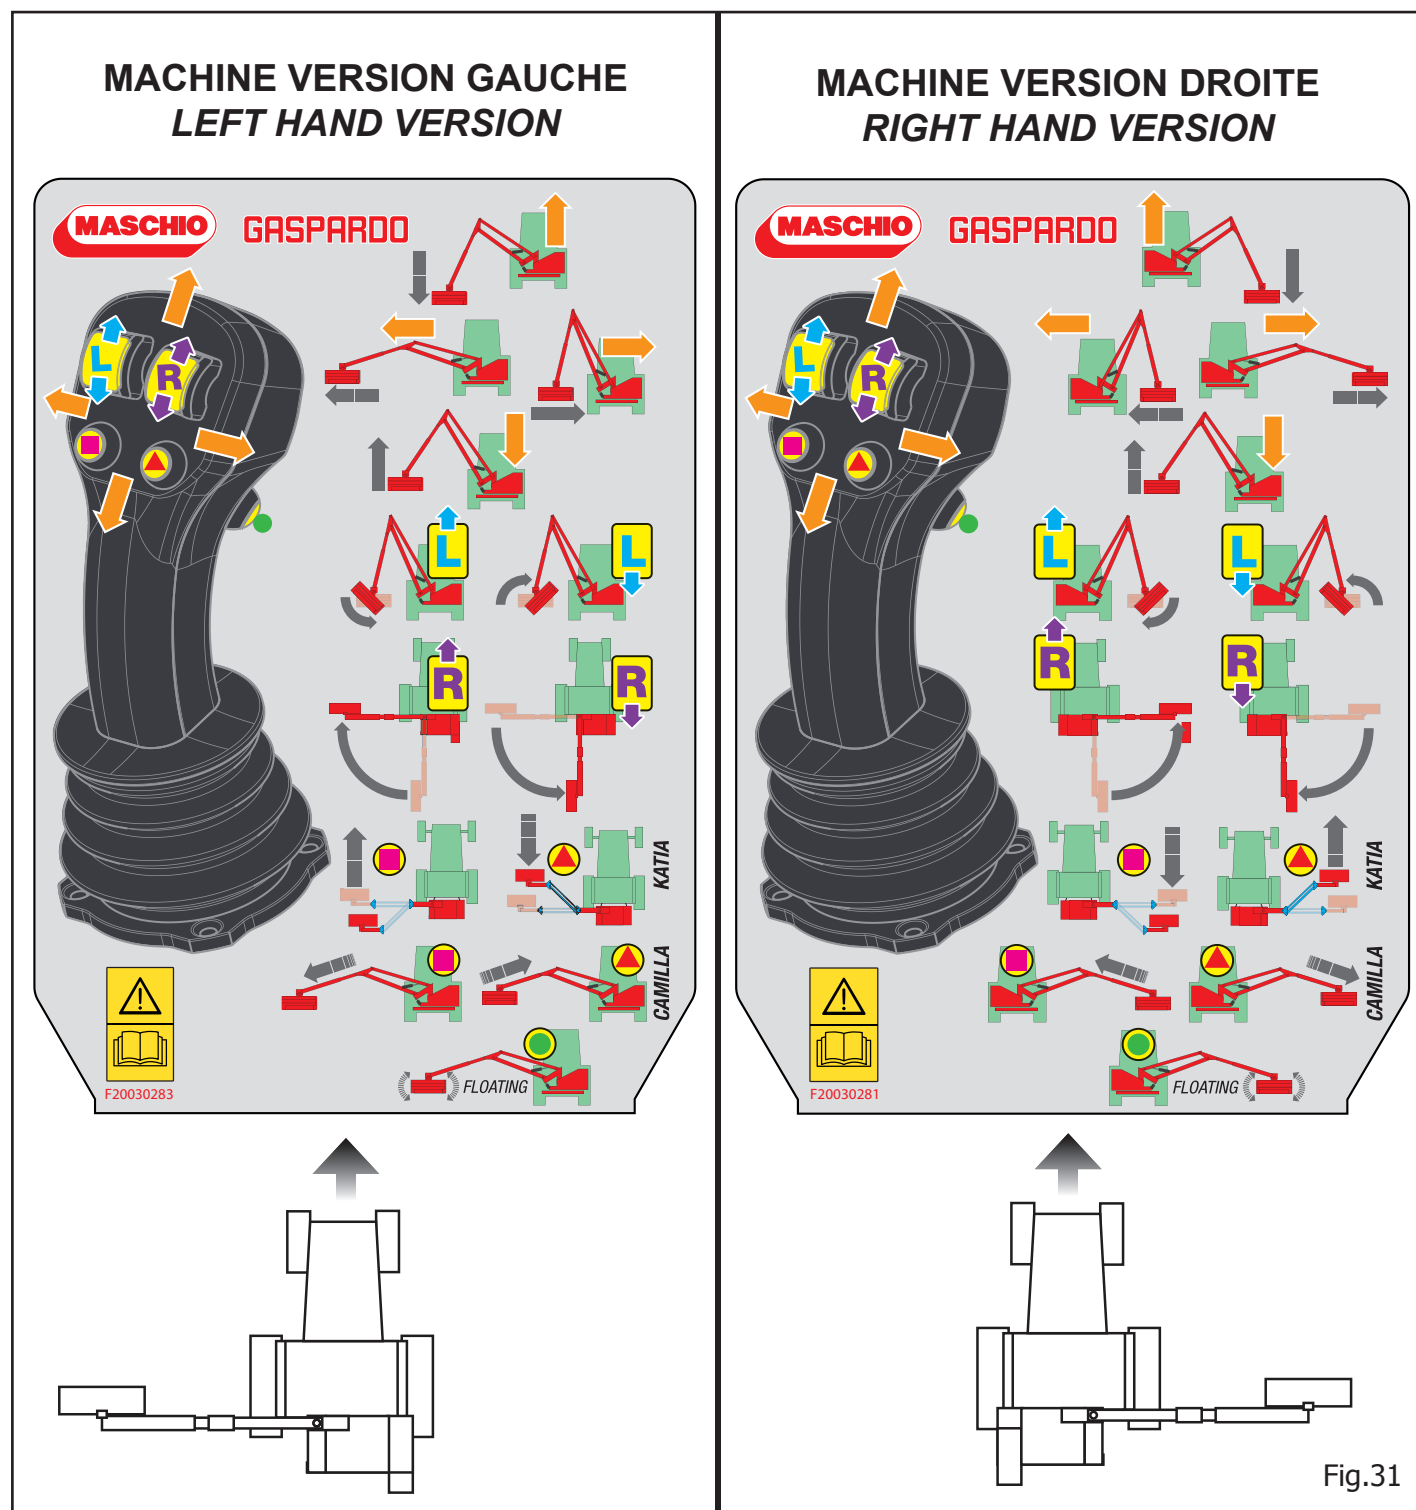

Fig.31
4.12 COMMANDES ÉLECTRO PROPORTIONNELLES (Fig.31)